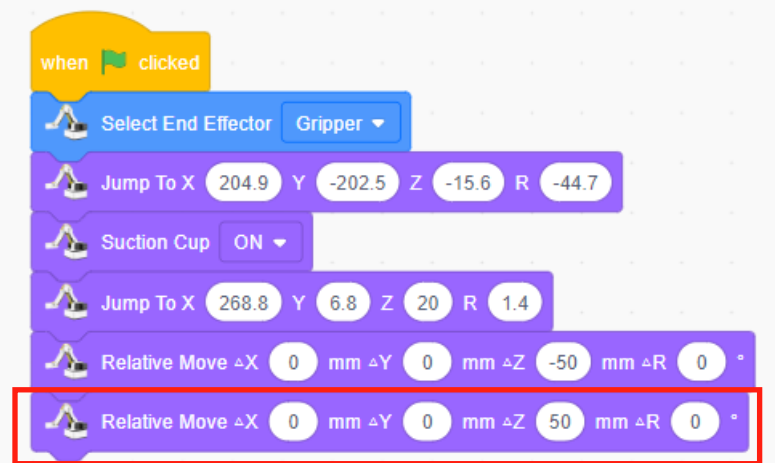

Figure 1.18 Moving the robotic arm upward
Step 3: Move the robotic arm upward, click on the "Motion" tab, drag out the "Relative Move (X, Y, Z, R)" block, and set the Z-axis coordinate relative movement upward by 50, as shown in Figure 1.18.